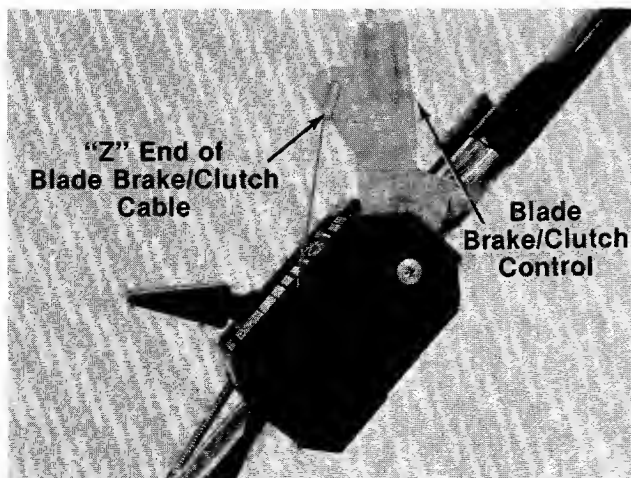

FIGURE 5.
7. Hook the “Z” end of the blade brake/clutch cable into blade brake/clutch control handle. See figure 5.